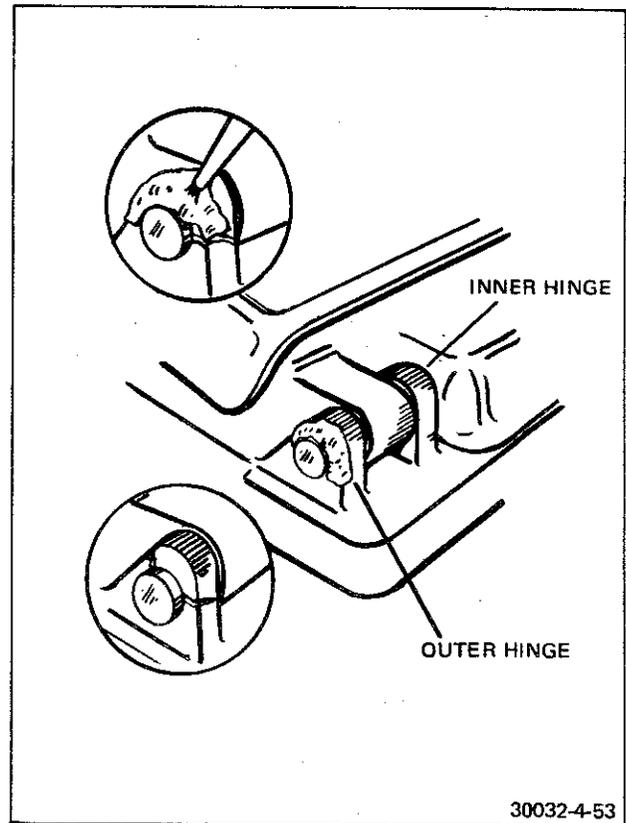

FIGURE 4-53 EPOXY REPAIR OF INNER FRAME HINGE
*If the broken part of hinge is available, use 5 minute epoxy and apply to both sides of the break. Use very little epoxy and allow about 3 minutes to become tacky. Then stick the two pieces together. After drying, apply small amount of epoxy over the break and allow to follow the radius on the bottom (Figure 4-53). If the pin becomes glued to the black repaired hinge, no harm will be done since the chrome plated hinge attached to the mirror cover assembly rides around the pin.*